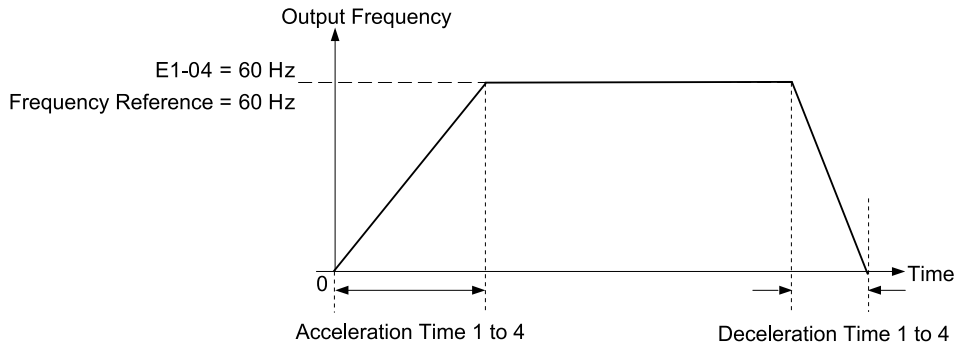
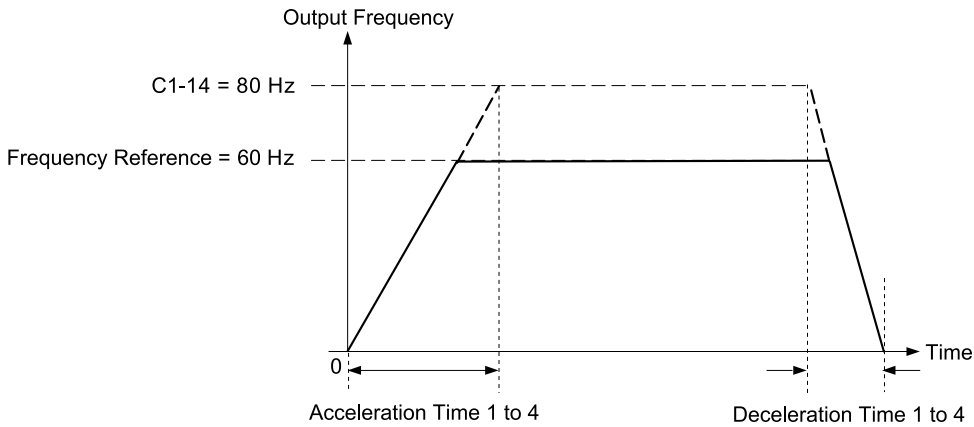

Figure 2.40 Example 1: Acceleration/Deceleration Rate (When C1-14 = 0 Hz, E1-04 = 60 Hz, and the Frequency Reference is 60 Hz)
Figure 2.42 Example 3: Acceleration/Deceleration Rate (When C1-14 = 80 Hz, E1-04 = 60 Hz, and the Frequency Reference is 60 Hz)
- Figure 2.40 to Figure 2.42 show the accel/decel times when C2-01 to C2-04 [S-Curve Times @ Start/End of Accel/Decel] = 0.00 s.